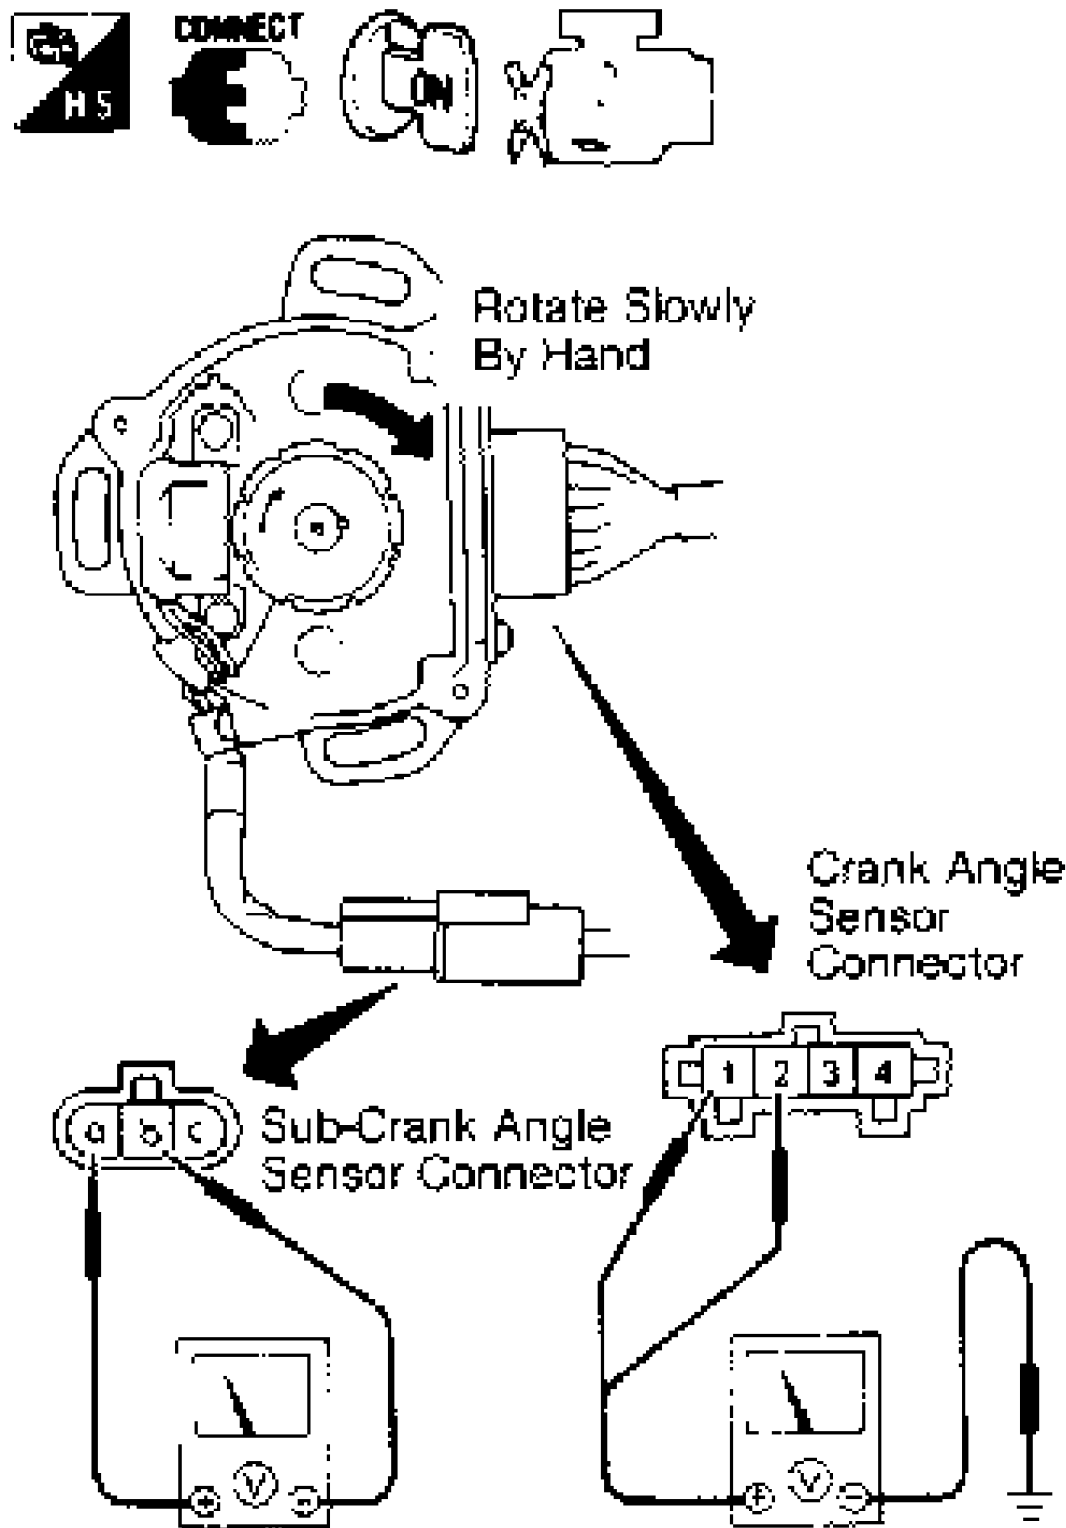

Fig. 5: Checking Crank Angle & Sub-Crank Angle Sensor Circuits (Q45)
2) Connect negative voltmeter lead to ground. Rotate crank angle sensor shaft slowly by hand. Connect positive voltmeter lead to crank angle sensor connector terminal No. 1 (90-degree signal). Voltage should fluctuate between 0 and 5 volts. Move voltmeter positive lead to terminal No. 2 (one-degree signal). Voltage should again fluctuate between 0 and 5 volts. See Fig. 5.
"b" of sub-crank angle sensor terminal connector. See Fig. 5. Rotate crank angle sensor shaft slowly by hand; voltmeter should deflect. If voltmeter does not deflect, replace crank angle sensor.